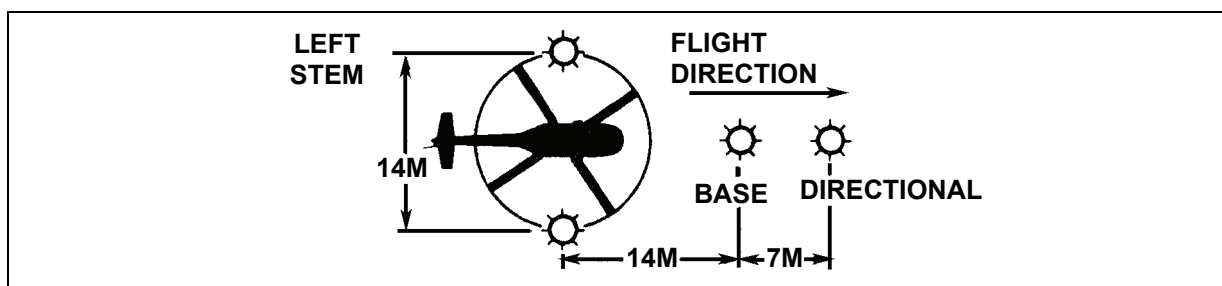

Figure 4-11. Inverted "Y" Light Formation
- **The Inverted "Y" Light Formation.** The inverted "Y" light formation is set up using four lights positioned according to Figure 4-11. The cargo is placed between the two stem lights and aligned with the base and directional lights. The single aircraft or lead aircraft in a formation flight will touch down or hover into the "Y," midway between the legs of the "Y."